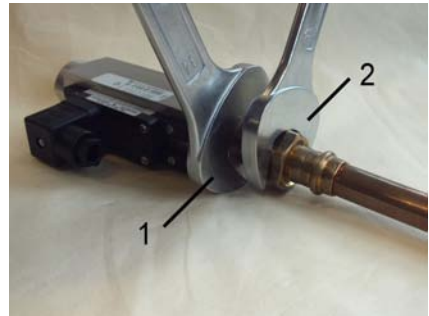

Fig. 11: Screw in the device
3. ➤ Keep turning in the adapter union (Fig. 11/2) while holding the process connection of the device locked (Fig. 11/1) until the connection is tight.